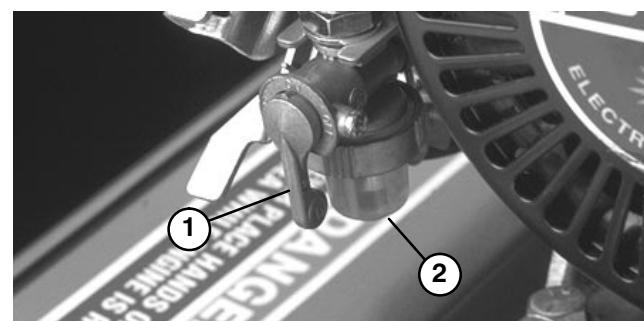

Figure 32
- 1. Close fuel shut off valve and unscrew bowl from filter body (Fig. 32).